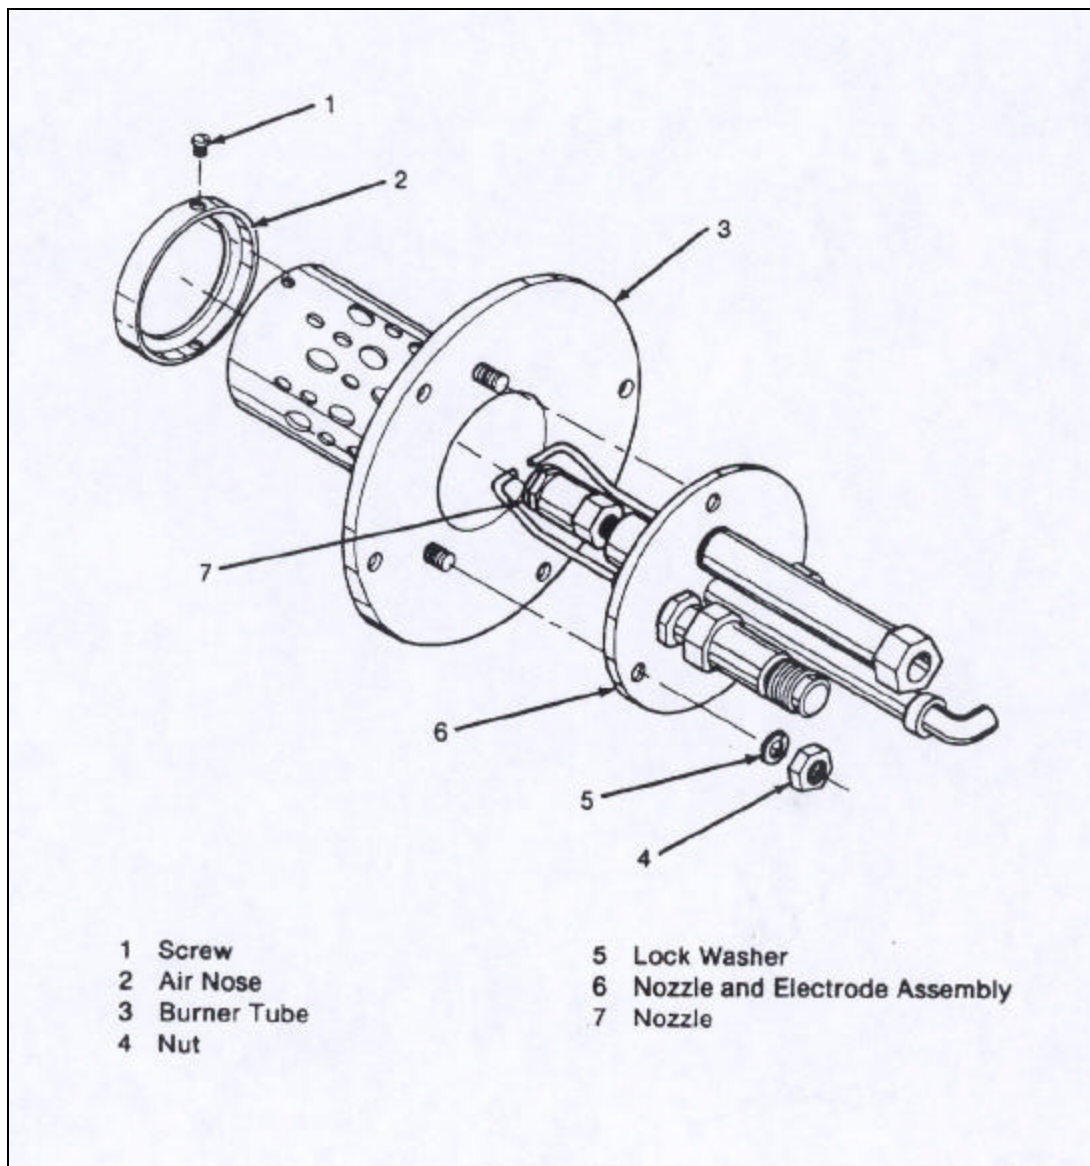
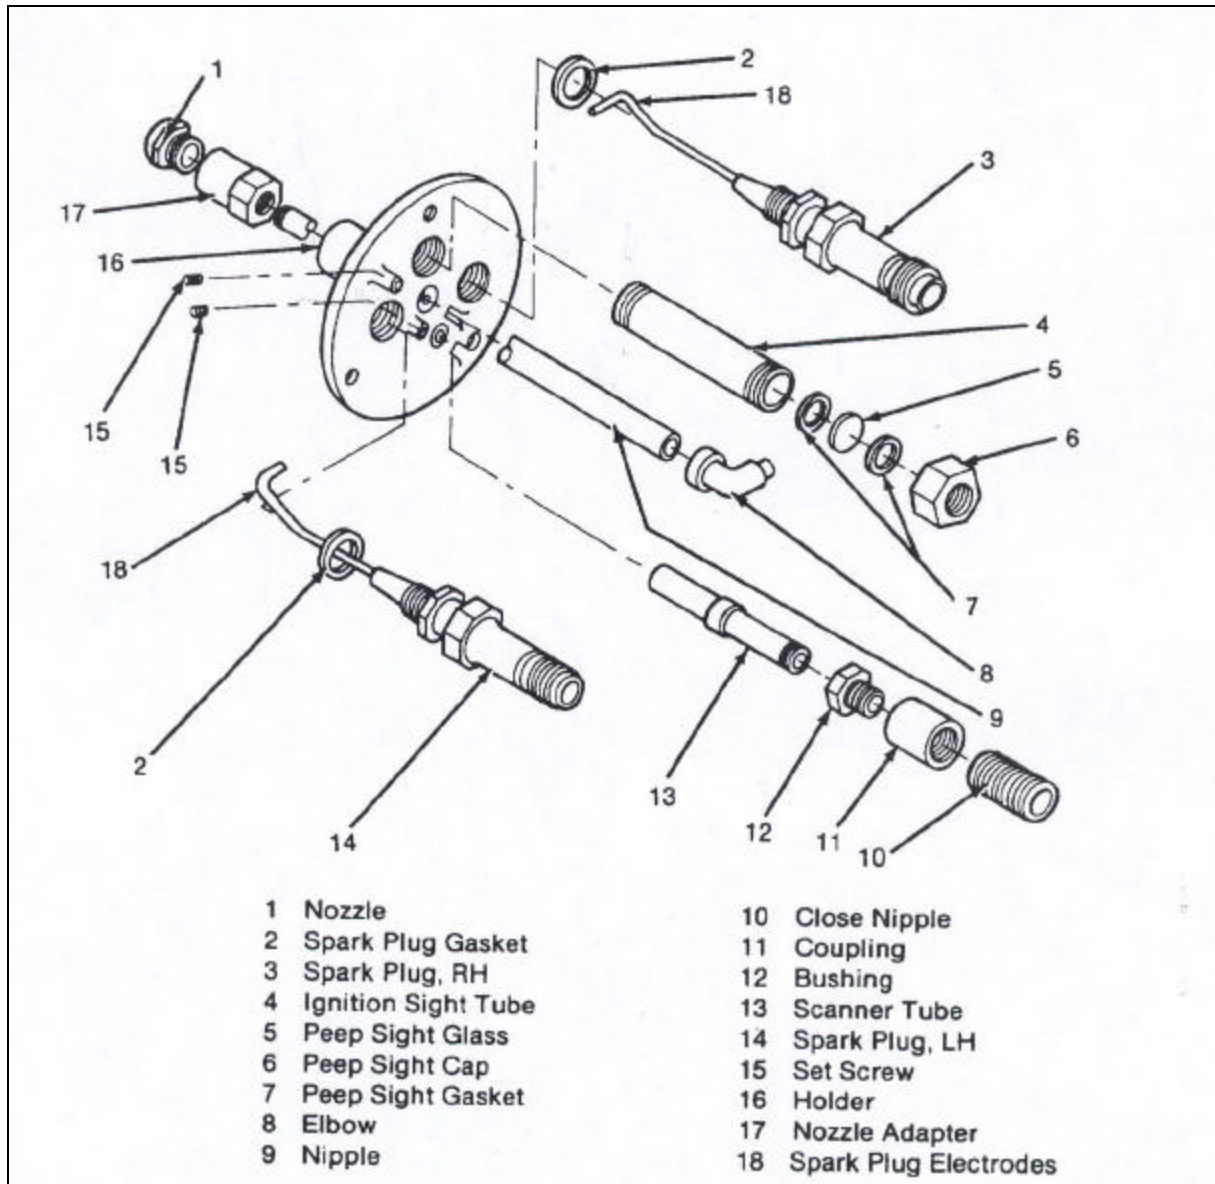

Figure 5-11
Figure 5-12
(4) Disassembly (**Figure 5-11**)
(6) Replacement - Replace all defective items with serviceable items.
(7) Assembly (**Figure 5-11 and 5-10**)
(c) Connect burner fuel line tubing (14), both ignition cables (15), and scanner tube (13) to burner head assembly (**see Figure 5-12**).
(1) Removal (**Figure 5-12**)
(2) Disassembly
(a) Bend both spark plug electrodes (18) so they do not strike nozzle (1) when spark plugs are removed. (**See Figure 5-11** for assembled equipment).
(4) Assembly
(a) Screw bushing (12, figure 5-12) into coupling (11)
(a) Install nozzle and electrode assembly (6, **Figure 5-11**) in burner head assembly.